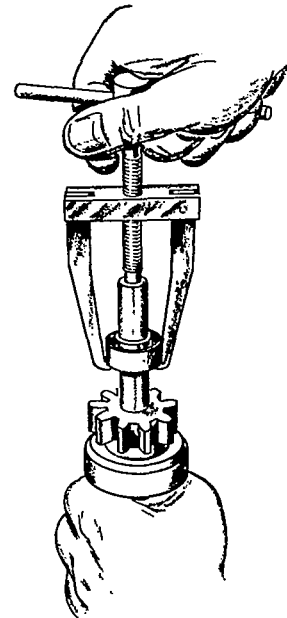

FIGURE 28. MOUNTING OVERRUNNING CLUTCH
3. To mount the overrunning clutch; first insert the pinion stopper into the armature shaft, then apply the ring to the groove of the shaft rigidly. For the insertion of the ring, use a tool as shown in Figure 28 and pull the pinion stopper up.